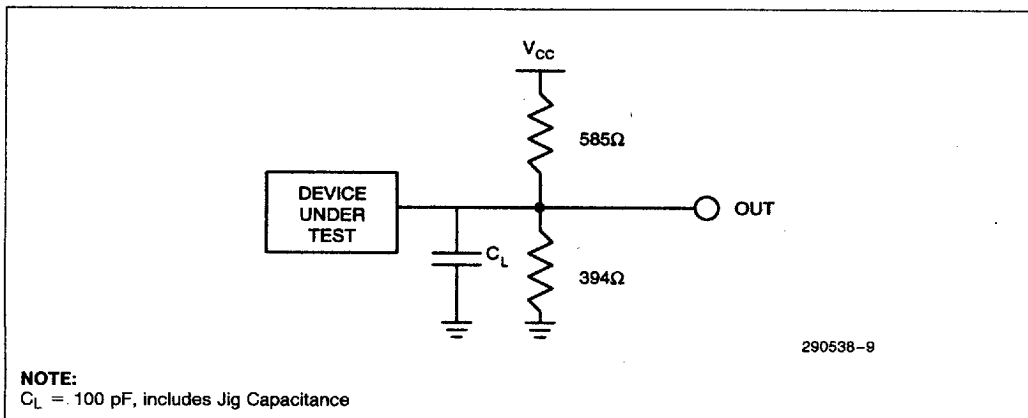

Figure 9. 5V Standard Test Configuration
5. See 5V Standard Test Configuration. (Figure 9)